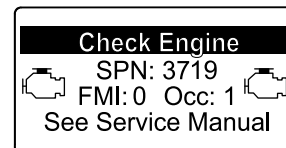

Figure 36
- If a recovery regeneration is needed, the InfoCenter displays engine warning SPN 3719, FMI 16 (Figure 36) and the engine computer derates engine power to 85%.